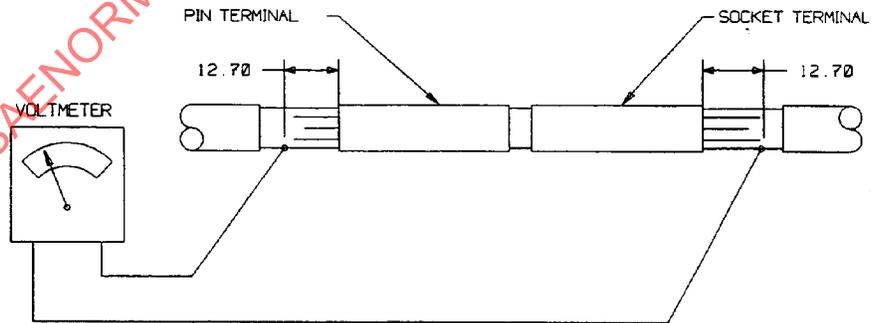

FIGURE 8—VOLTAGE DROP TEST
5.3 Voltage Drop—Measure the voltage drop across each pair of mated contacts, 1 min after a 500 A load power is applied. The measurement shall be taken as shown in Figure 8. The voltage drop shall not exceed 100 mV.